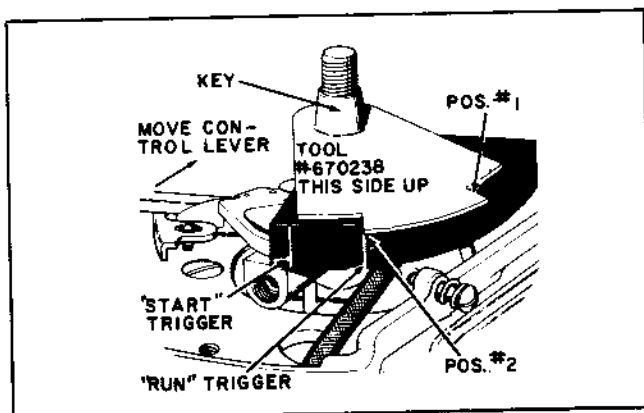

Figure 3-13. Idle (pickup) Position
- 6.(a) Move the control lever to align the "RUN" trigger of the ignition unit with the tool at the proper position pointed out in Fig. 3-13. Hold this position.